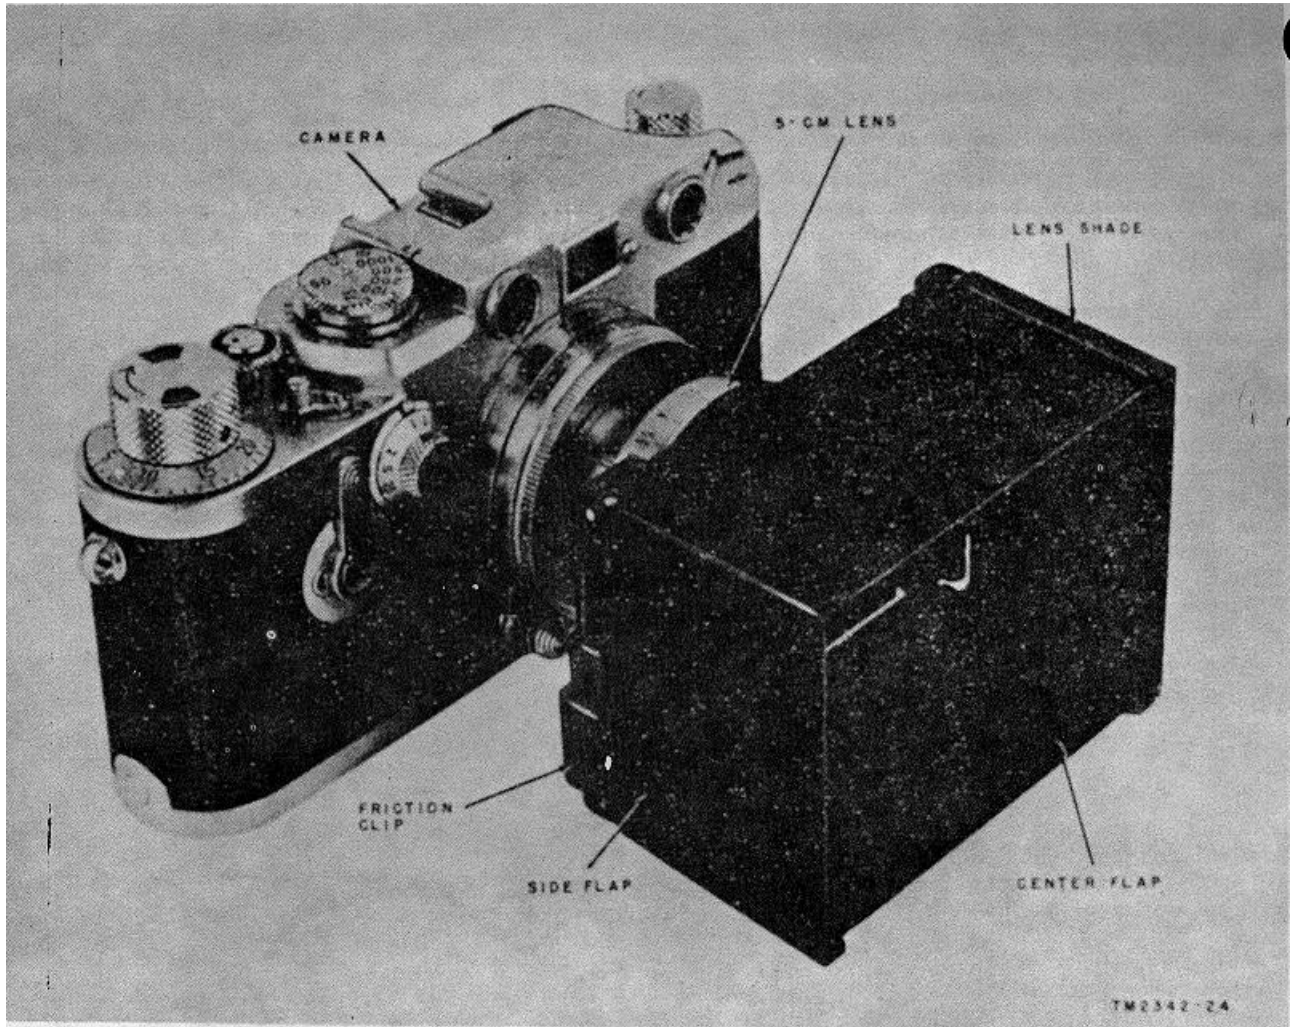

Figure 25. Camera, with 5-cm lens shade attached.
a. *Lens, 5-cm (KS-15 (1) )* (fig. 25).
(1) Be sure the lens barrel is in its ex